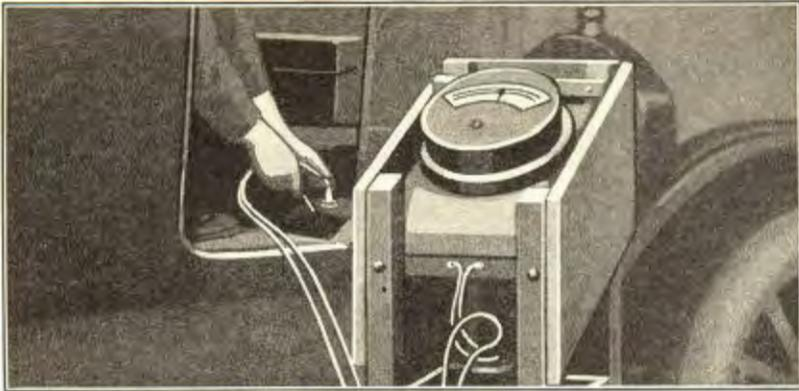

Fig. 499
- 994** If the engine starts, the magneto is either weak or dead. With the engine running take a volt meter reading (See Fig. 499). This can be done by disconnecting magneto terminal wire at magneto contact assembly. One wire on the volt meter is then connected to magneto contact, while the other wire on volt meter is pressed against a clean part of the cylinder or transmission cover. Throttle the engine down